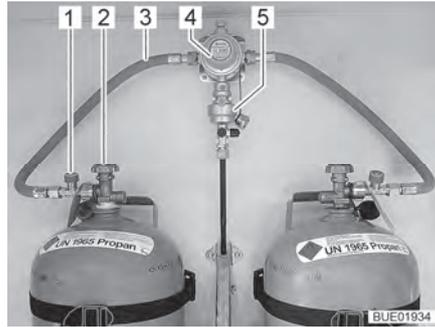
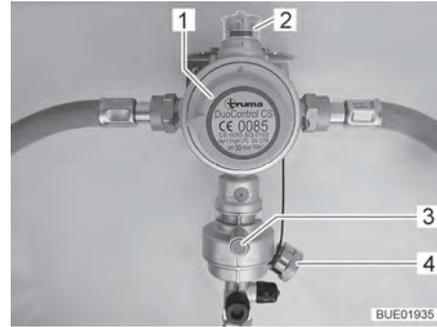
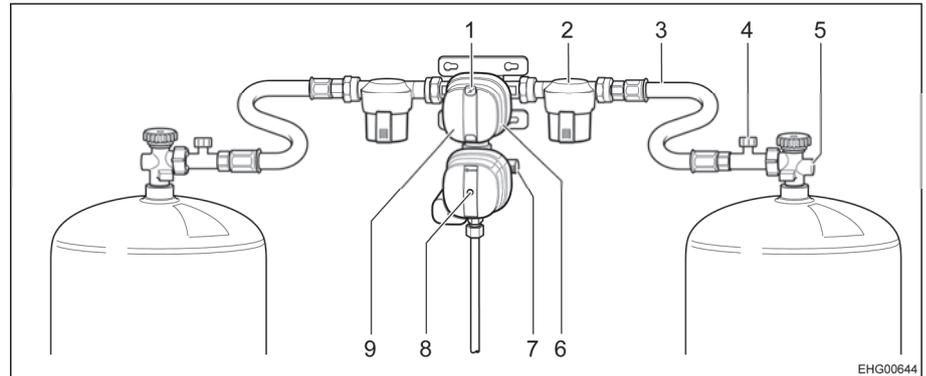

Fig. 67 Gas bottles with DuoControl
Fig. 68 DuoControl regulating system
Fig. 69 Gas pressure regulating system DuoControl CS
The DuoControl regulating system consists of a reversing valve (Fig. 67,4) and a crash sensor (Fig. 67,5). The DuoControl regulating system is installed between the gas tubes (Fig. 67,3) with hose break guard (Fig. 67,1). The knob (Fig. 68,1) on the reversing valve is used to select which of the gas bottles is to be used as primary bottle and which is to be used as reserve bottle.
The status of the gas supply is indicated in the inspection window (Fig. 68,2):
The operation with only one gas bottle is allowed but in this case the open connection must be closed with a blind cover (Fig. 68,4).
The crash sensor blocks the gas supply in the event of a significant impact (e.g. accident). The crash sensor is put into operation with the green reset button (Fig. 68,3).
The hose break guard (Fig. 67,1) blocks the gas flow if the connected hose breaks. The hose break guard must be activated by pressing the green button.
The DuoControl regulating system consists of a reversing valve with crash sensor (Fig. 69,9). The DuoControl regulating system is installed between the high-pressure hoses (Fig. 69,3) with hose break guard (Fig. 69,4). The knob (Fig. 69,6) on the reversing valve is used to select which of the gas bottles is to be used as primary bottle and which is to be used as reserve bottle.
The status of the gas supply is indicated by the status indicator (Fig. 69,1):
The operation with only one gas bottle is allowed but in this case the open connection must be closed with a screw cap (Fig. 69,7).
The crash sensor blocks the gas supply in the event of a significant impact (e.g. accident). The crash sensor is put into operation with the yellow reset button (Fig. 69,8).
The hose break guard (Fig. 69,4) blocks the gas flow if the connected hose breaks.
Operating unit At the operating unit (Fig. 70), the gas supply via the DuoControl regulating system is switched on and off. The regulator taps (Fig. 69,5) of the gas bottles and the gas isolator taps of the devices must be opened manually. Summer and winter operation are switched with the rocker switch (Fig. 70,7) on the operating unit.
- Use the knob (Fig. 69,6) on the reversing valve to select the gas bottle which is to be the primary source of gas (primary bottle). Always turn the knob as far as it will go.
- Open regulator taps (Fig. 69,5) on the gas bottles.
- Activate the hose break guard. In order to do this, press and hold the green button (Fig. 67,1) or press the hose break guard (Fig. 69,4) for about 5 seconds. The green marking is shown in the inspection window or on the status indicator (Fig. 69,1).
- Close the regulator taps (Fig. 67,2 or Fig. 69,5) on the gas bottles.
If the green indicator lamp (Fig. 70,6) goes out during operation and the red indicator lamp (Fig. 70,5) lights up, the primary bottle is empty and must be changed. The red marking is shown in the inspection window (Fig. 68,2) or on the status indicator (Fig. 69,1). The reserve bottle continues supplying the gas appliances with gas.
- Turn the knob (Fig. 69,6) a half turn in the direction of the currently used gas bottle. In this way, this gas bottle is the primary bottle now, and the empty gas bottle becomes the reserve bottle. The marking in the inspection window (Fig. 68,2) or on the status indicator (Fig. 69,1) changes from red to green.
- Close the regulator tap (Fig. 67,2 or Fig. 69,5) on the empty gas bottle. Pay attention to the direction of the arrow.
- Activate the hose break guard. In order to do this, press and hold the green button (Fig. 67,1) or press the hose break guard (Fig. 69,4) for about 5 seconds.